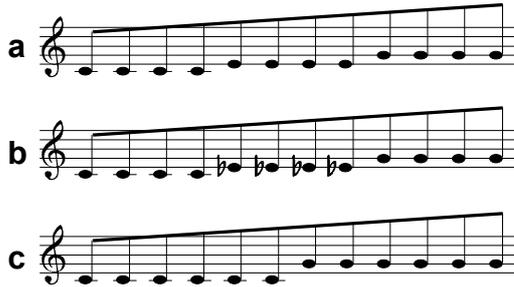

fig. 4: Major chord (a), minor chord (b) and fundamental+fifth (c)
In the **"Chord"** position only voltages corresponding to the chord type selected with switch ① (major or minor) are passed to the control voltage output (see fig. 4 a+b).
In the "Quint" position only voltages corresponding to the fundamental or the fifth are passed to the control voltage output (see fig. 4 c).